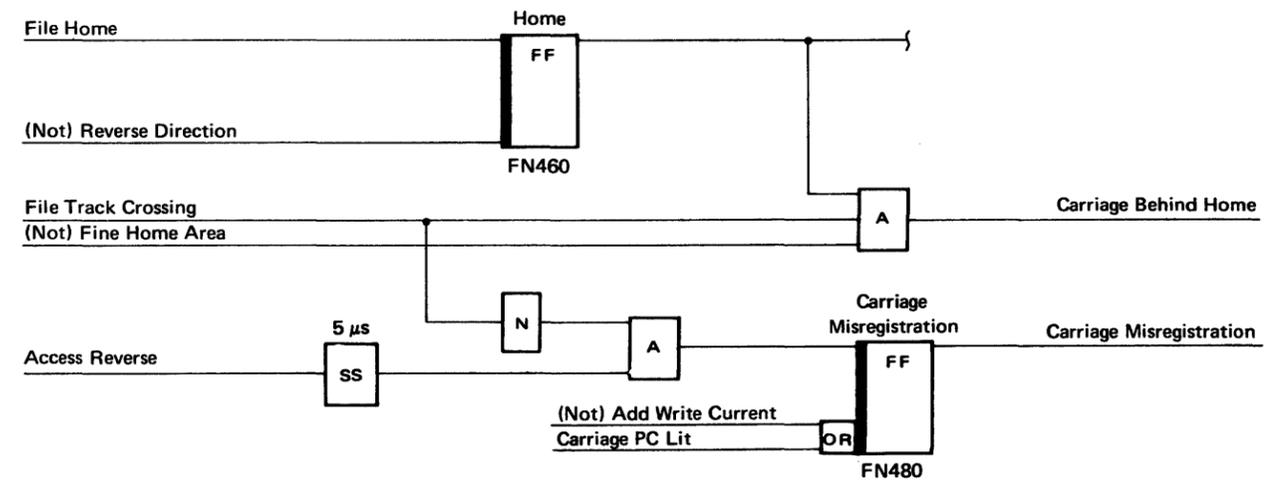

Figure 1-48. Head Movement Error Logic [07509]
- Figure 1-48 shows the head movement error logic.